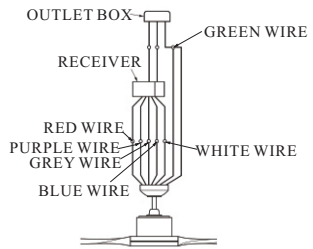

FIG.7
2. Connect the red wire from receiver to the red wire from fan with wire nut. Connect the purple wire from receiver to the purple wire from fan with wire nut. Connect the blue wire from receiver to the blue wire from fan with wire nut. Connect the grey wire from receiver to the grey wire from fan with wire nut. Connect the white wire from receiver to the white wire from fan with wire nut. Connect the green wire from ceiling, and green wire from hanger bracket with green wire from downrod ball with wire nut. (see Fig. 7)